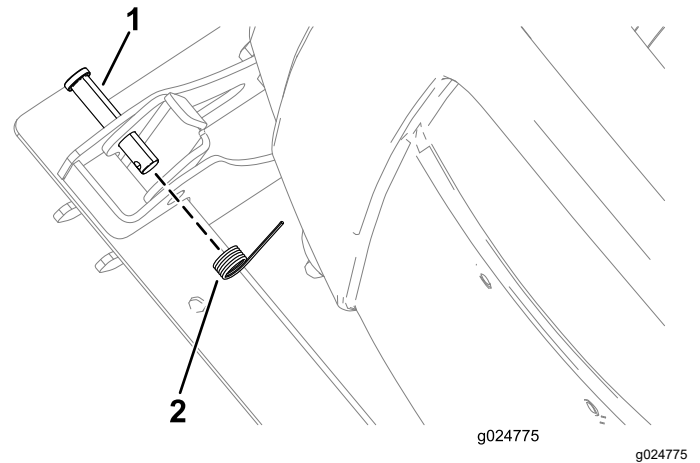

Figure 24
- 7. Install the spring onto the clevis pin (Figure 24).